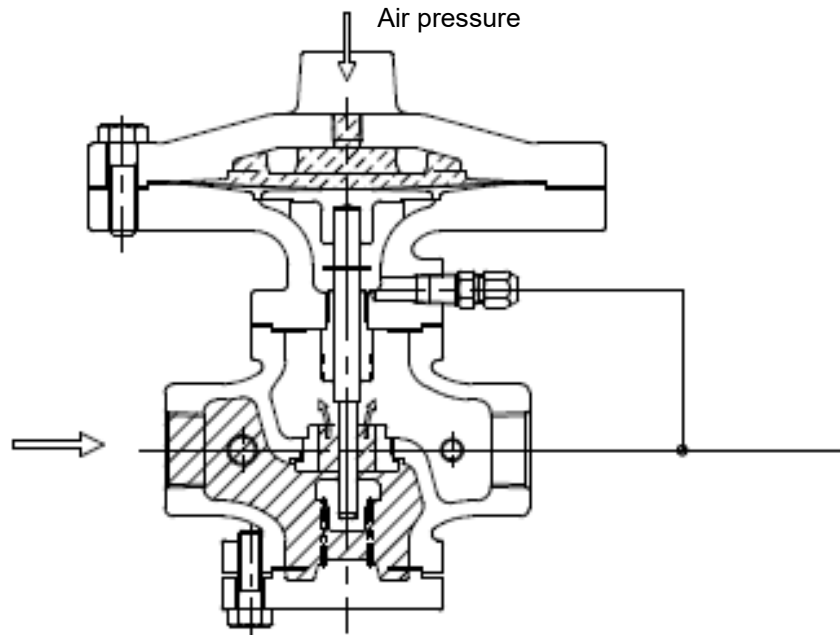

Fig.2
- (2) When air pressure is introduced into the air pressure control space [33] by a standard control unit, etc., main diaphragm [11] will bend and when it overcomes both the pressure against the back of the main valve, and the load of the main valve spring, thereby pushing the main valve open. The fluid then begins to flow from the inlet side to the reduced pressure side. (Fig. 2)